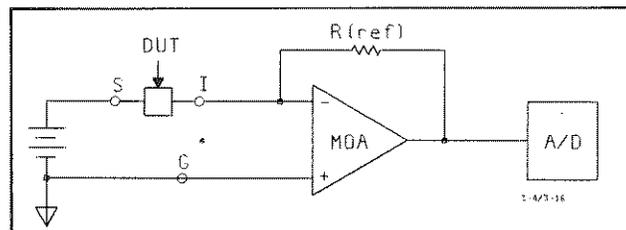

Figure 3-8. T5 Functional Block.
**3-19. T5—Leakage Current Test— $FET_{IDSS}$ .** The Leakage Current Test is the same configuration as the Resistance Test, see Figure 3-8. To determine the current through the device under test, the output voltage measured by the 3253A A/D is divided by the resistive value of the reference element. When measuring  $FET_{IDSS}$ , the gate is connected to the G bus, the source is connected to the I bus and the drain is connected to the S bus. The internal voltage source should be considerably greater than the FET pinch-off voltage to assure that the FET is in a constant current mode. The formula for converting the output voltage measurement by the 3253A into current is listed below: